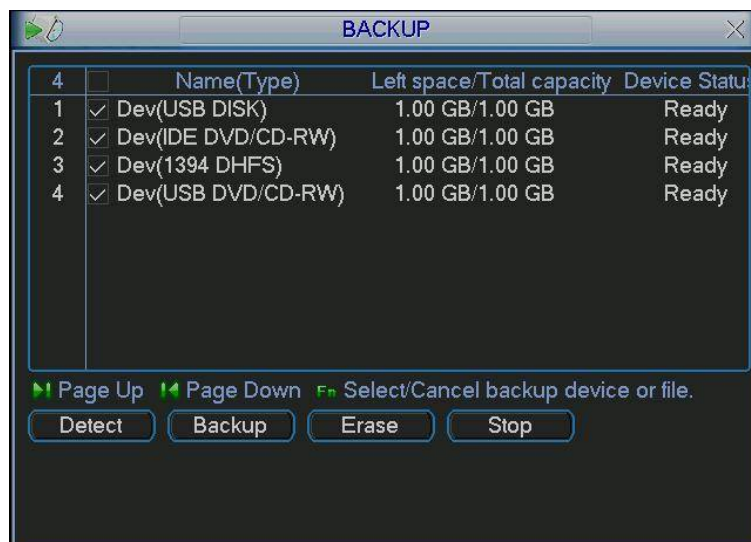

Figure 4-27
- PTZ activation: Here you can set PTZ movement when alarm occurs. Such as go to preset, tour& pattern when there is an alarm. Click “select” button, you can see an interface is shown as in Figure 4-27.
Click backup button, you can see an interface is shown as in Figure 4-27. Here is for you to view devices information.